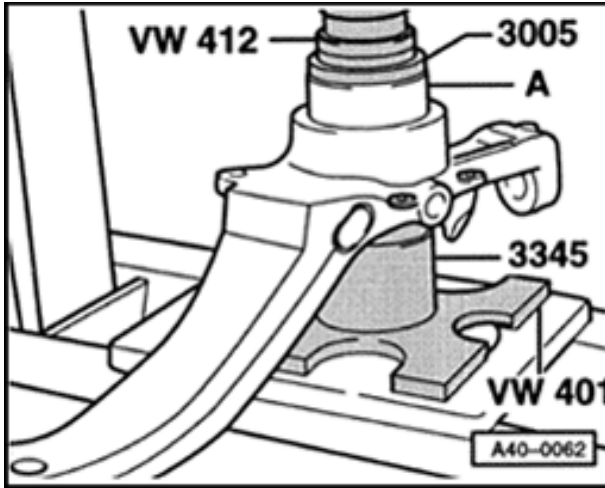

Fig. 7 Pressing wheel bearing into wheel bearing housing with 75 mm diameter
- ◆ Pressing in 75 mm dia. ⇒ Fig. 7